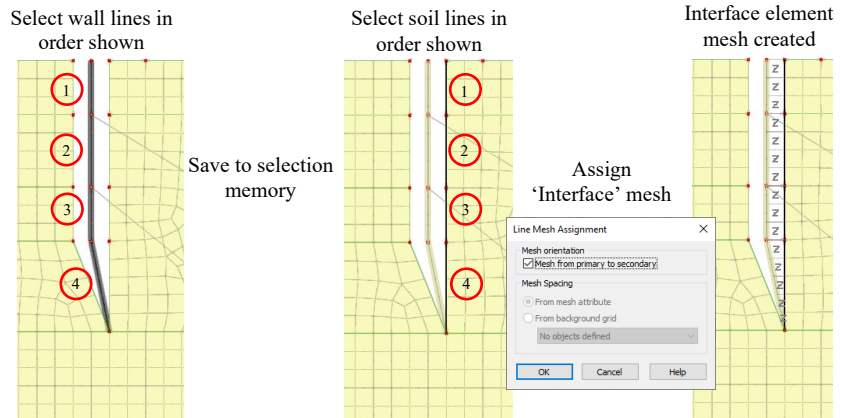

Figure 27: Assignment of interface mesh 1
- Select the four lines representing the wall in the order shown in figure 27, then, right-click in the model view window and choose **Selection Memory > Set**.
- Now select the four lines marking the boundary of the soil, the Primary Assignment, in the order shown in figure 27. Then assign the **Interface** mesh.